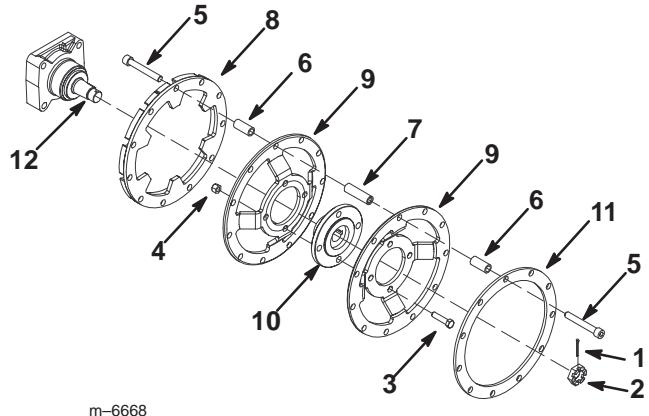

Figure 5
1. Remove the cotter pin and motor wheel nut. Remove the rear wheel assembly from the motor shaft. (Fig. 5)
2. Disassemble the rear wheel by removing the 22 hex socket screws, long spacers, and short spacers securing the outer ring of the wheel assembly, and then remove the four bolts and nuts on the inner ring of the wheel assembly (Fig. 5).